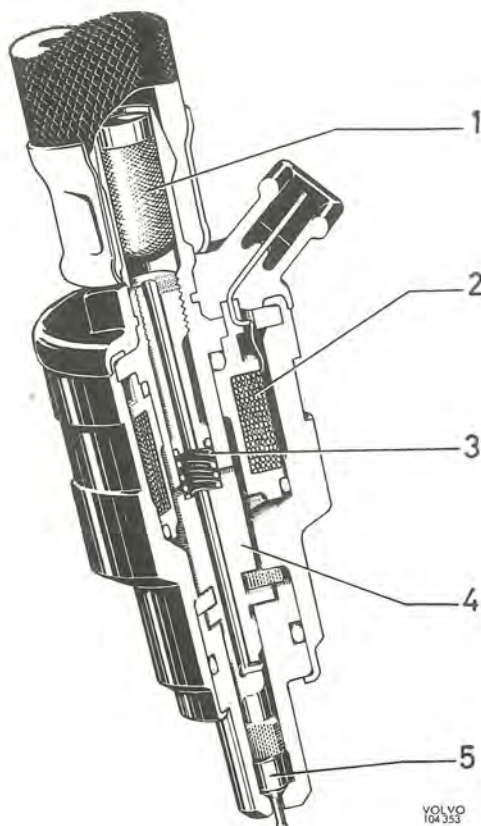

Fig. 2-110. Injector
The injector consists of a housing containing a sealing needle, magnetic winding and return spring, see Fig. 2-110. When the magnetic winding (2) is not in circuit, the return spring (3) presses the sealing needle (5) against a seat and this closes off the supply of fuel.